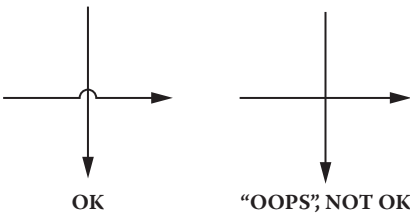

Figure 6.7 Flow should pass over and under.
5. Avoid crossing lines (Figure 6.7).